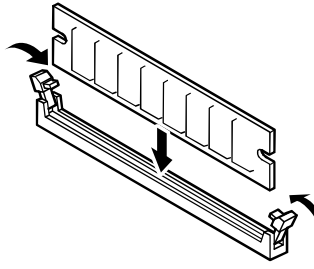

Figure 4-20. Installing a DIMM
7. DIMMs are keyed so they can only be inserted one way. Position the DIMM over the socket on the CPU board. The notches in the bottom edge of the DIMM mates with the raised bumps in the DIMM socket. See Figure 4-20.